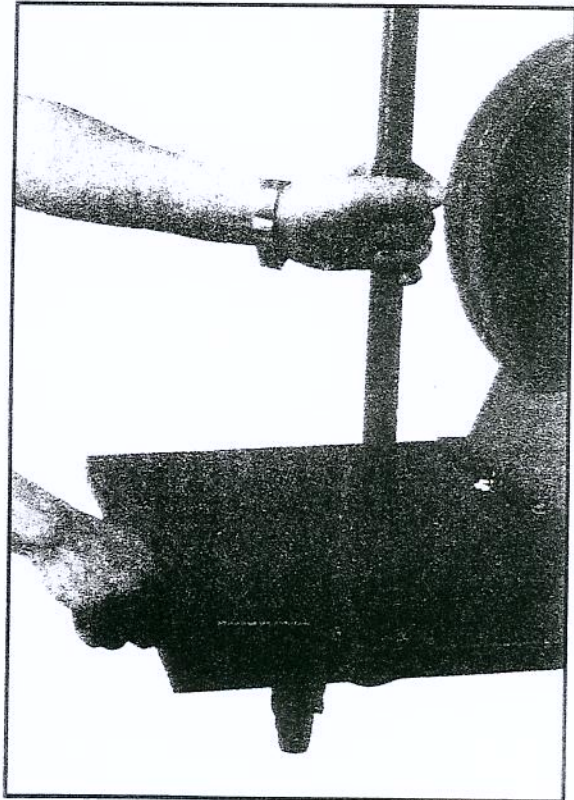
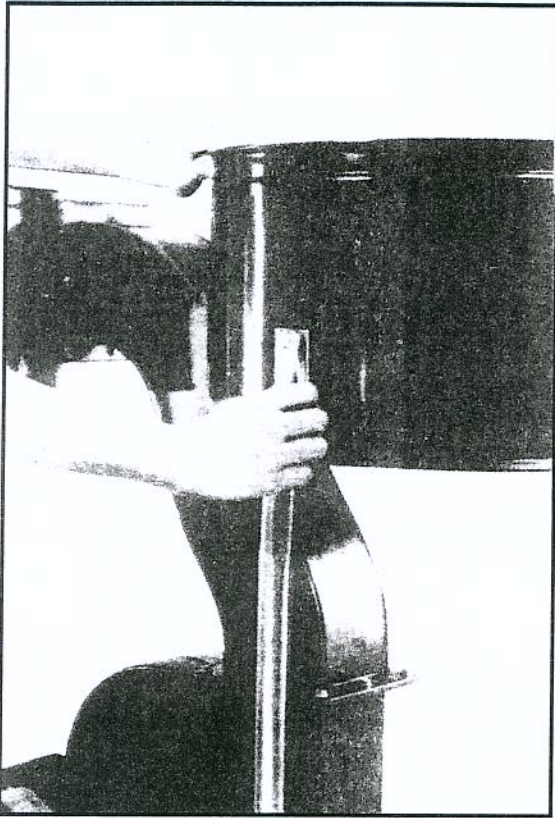

FIG. 8.
FIG. 9.
NOW INSTALL THE TWO COLLECTOR SUPPORTS (F) AS SHOWN IN FIG. 8. AND FIG. 9.